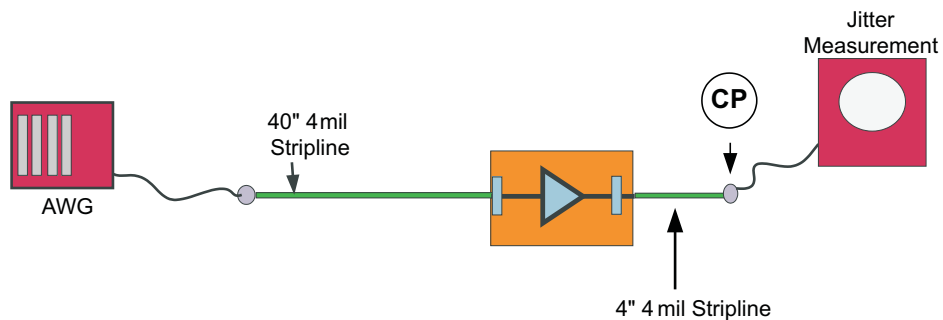

Figure 8. Jitter Measurement Test Condition
(1) $T_j = (14.1 \times RJ_{SD} + DJ)$ where RJ_{SD} is one standard deviation value of RJ Gaussian distribution. Jitter measurement is at the SATA connector and includes jitter generated at the package connection on the printed-circuit board, and at the board interconnect as shown in Figure 8.